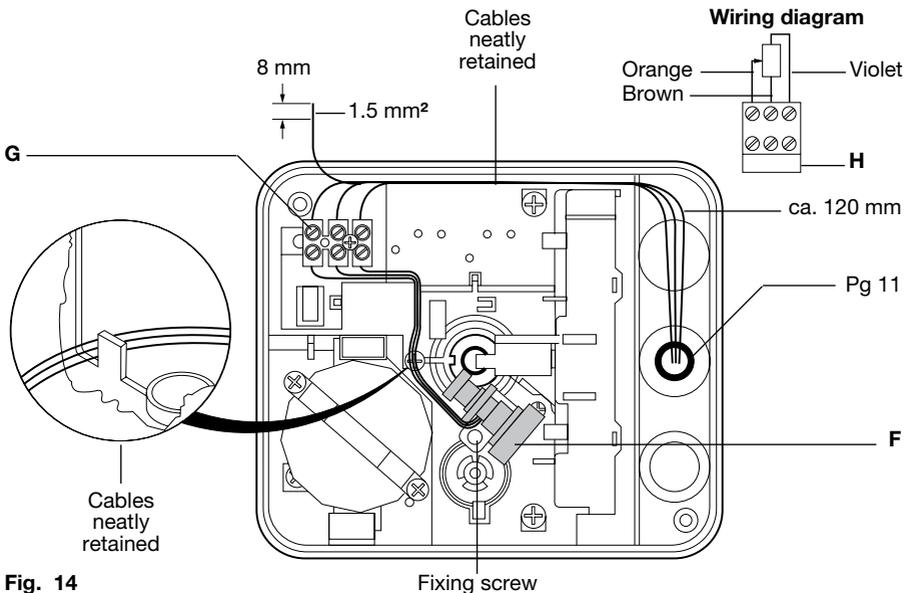

Fig. 14
1. The potentiometer (F) should be rotated fully clockwise using a flat screwdriver on the end of the potentiometer shaft.
3. Locate and screw the potentiometer in place as shown in Figure 14.
4. A terminal block (G) and label (H) are also supplied and should be screwed to the base.
6. Connect the potentiometer cables following the wiring diagram shown in Figure 14.